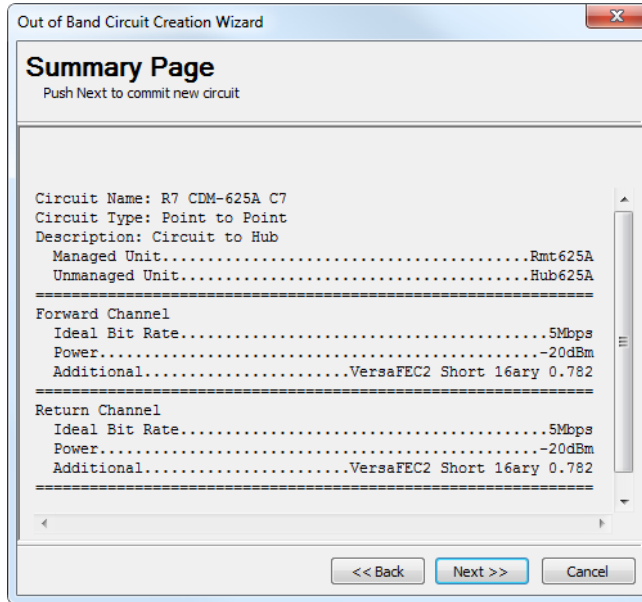

Figure 7-14 Summary Page, Full Duplex P2P
14. Click on the **Next** button (becomes active when configuration parameters have been set) to proceed to the wizard **Summary Page** (figure 7-14).